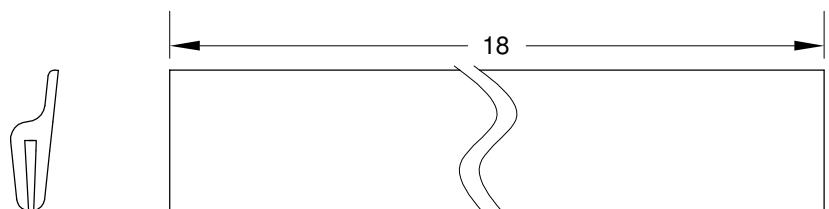

FIGURE 2: CREATING THE GAP SEAL
Step 6: Cut and install a piece of Rubber Channel to create the F-1094C Gap Seal as shown in Figure 2. This will allow extra material to account for material shrinkage over time and allow extra material so the ends can be trimmed to match the F-1094A Empennage Gap Cover.